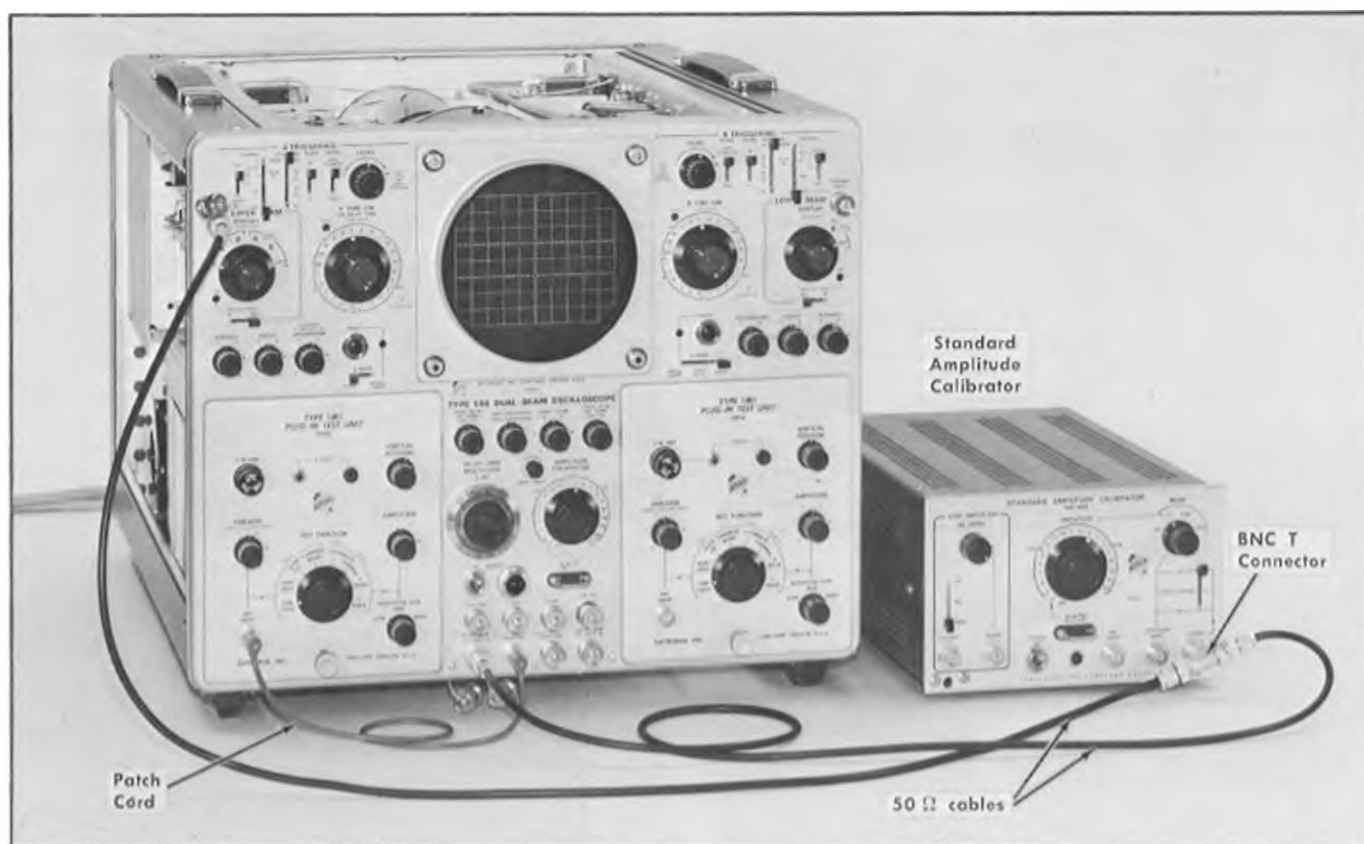

Fig. 6-52. Horizontal Amplifier Adjustment and Compensation.
a. The initial test setup is shown in Fig. 6-52.